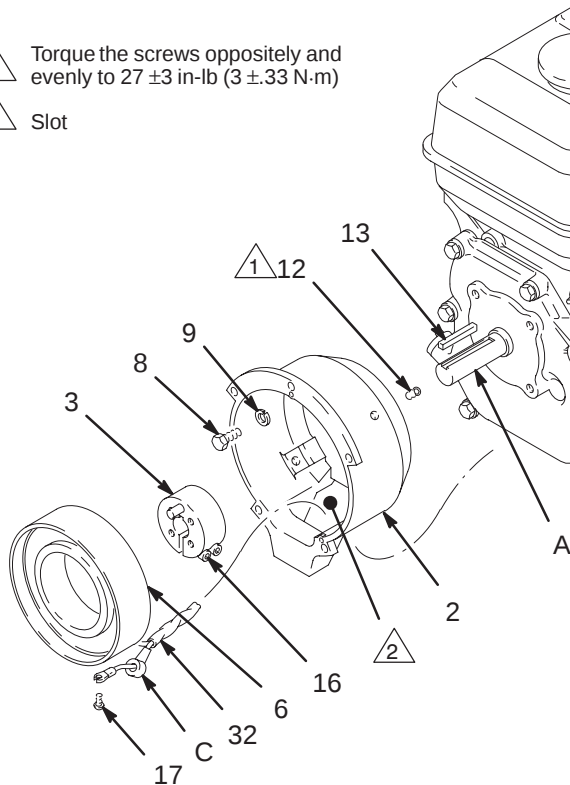

Fig. 17
1. Install the **clutch housing (2)**, capscrews (8) and lockwashers (9) on the engine. See Fig. 17.
2. Install the engine shaft **key (13)**. See Fig. 17.
3. Press the **clamp (3)** onto the engine shaft (A).
4. Connect the wires of the wire harness (32) to the screws (17) in both places on the field (wires can be attached to either connection). Pull the plastic caps (C) up and snap them over the screws. Install the **field (6)** in the clutch housing (2). Work the wire harness through the slot in the clutch housing. With the setscrew holes in the field and the clutch housing (2) aligned, tighten the setscrews (12) oppositely and evenly, to 27 ± 3 in-lb (3 ± 0.33 N·m). See Fig. 17.